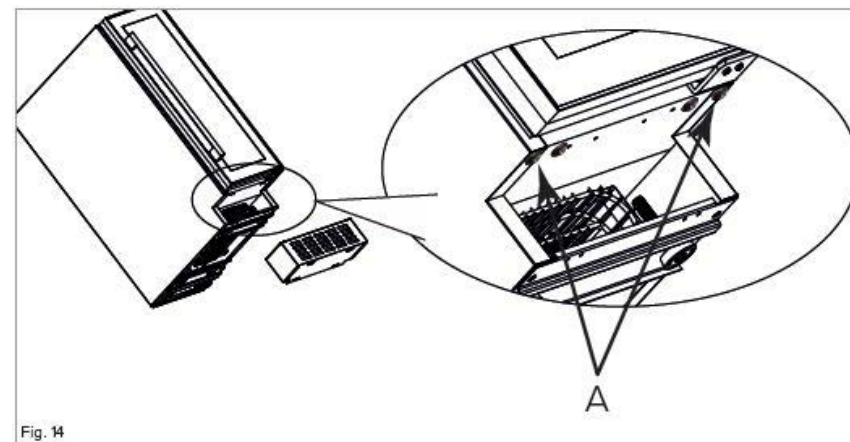

Fig. 14
4. If present, remove the two screws shown by arrows and marked as 'A' in Fig. 14. Then, locate the four black fitting screws. These are packaged inside the appliance with the door reversing hinge.